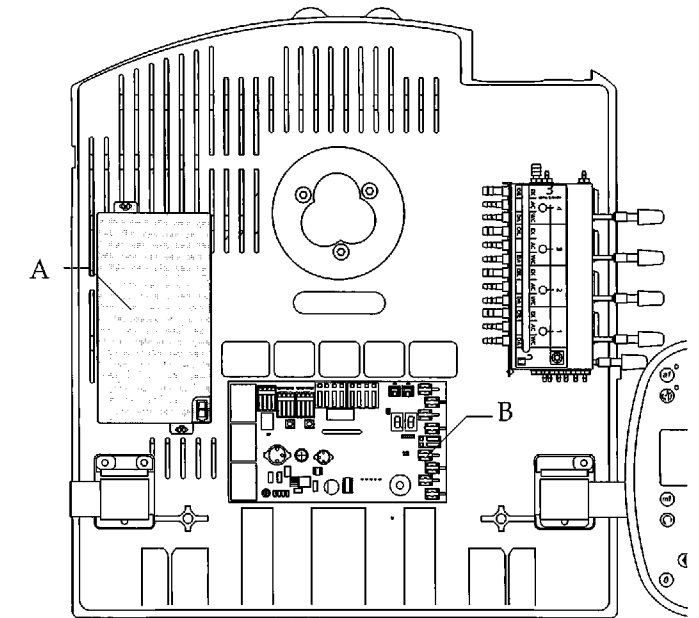

Figure 84. Location of the electric micromotor control module. (A) control module; (B) circuit board
2. Mount the control module to the structural platform, using two self-tapping screws (see Figure 84).